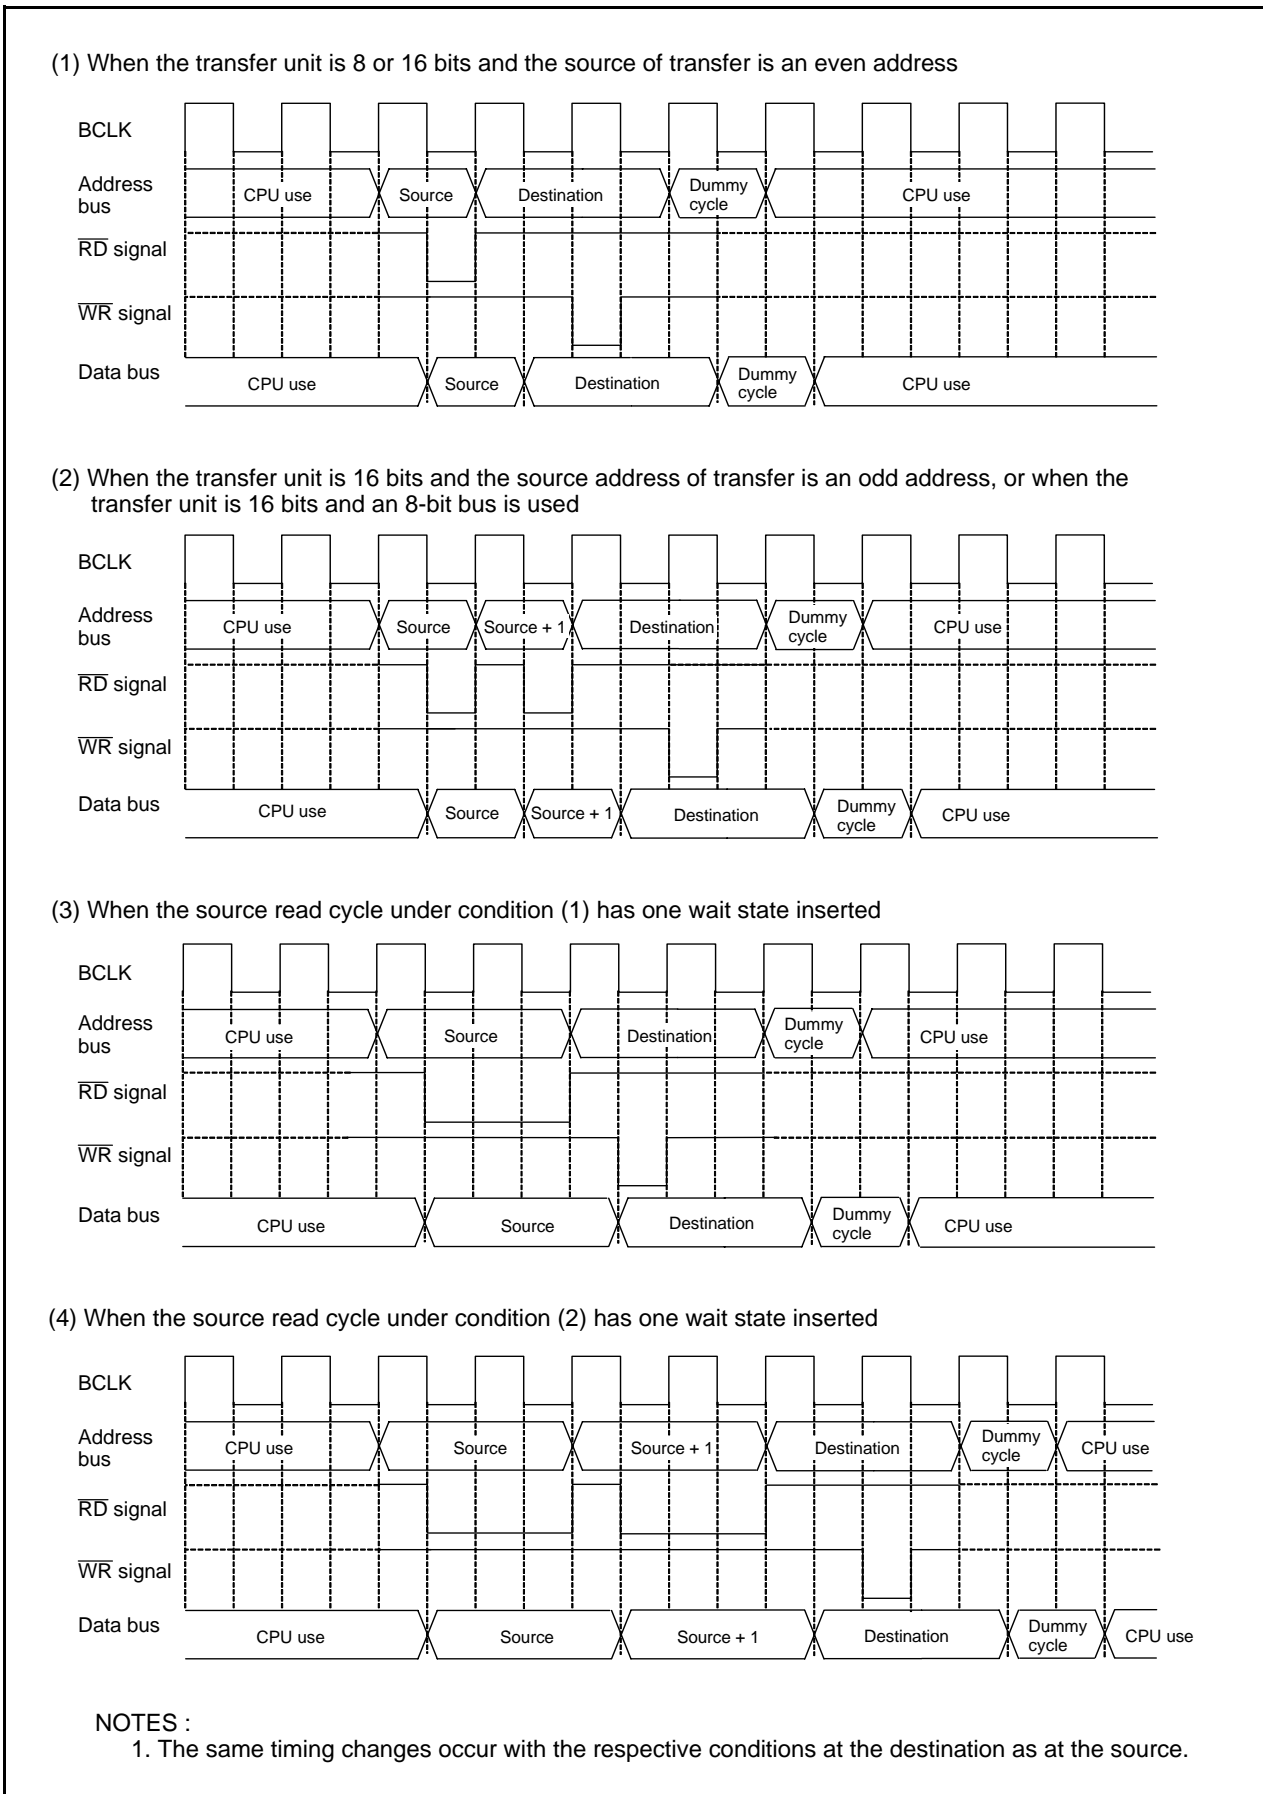

Figure 14.6 Transfer Cycles for Source Read
Figure 14.6 shows the example of the Transfer Cycles for Source Read. For convenience, the destination write cycle is shown as one cycle and the source read cycles for the different conditions are shown. In reality, the destination write cycle is subject to the same conditions as the source read cycle, with the transfer cycle changing accordingly. When calculating transfer cycles, take into consideration each condition for the source read and the destination write cycle, respectively. For example, when data is transferred in 16 bit units using an 8-bit bus ((2) on Figure 14.6), two source read bus cycles and two destination write bus cycles are required.